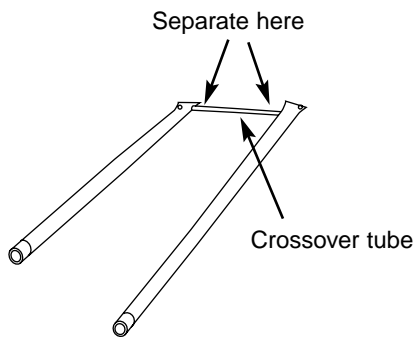

Figure 13
12. Lift and twist the burner assembly slightly to separate the crossover tube from the burners. Remove the burners from the cooking box. Figure 13.